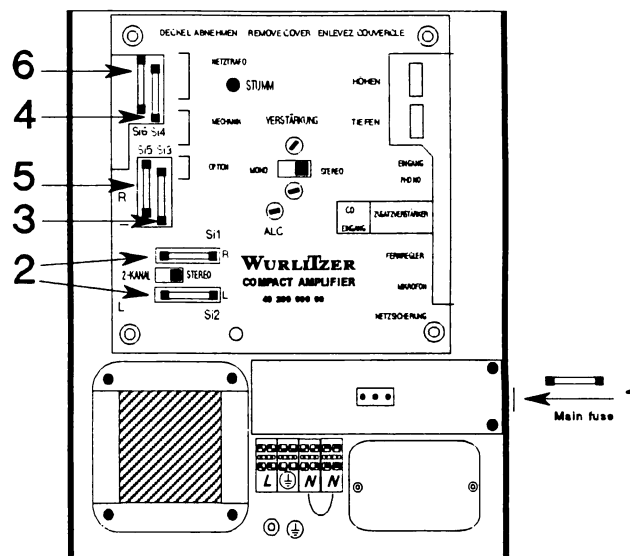

Abb. 26
01. Main fuse T 3, 15 (Fig. 26, 1) At 110/117 V-supply F6,3 A.	No illumination, jukebox completely dead.
02. Fuses Si1 and Si2 : Speaker fuses (Fig. 26, 2)	No sound on LH channel (Si1) or RH channel; the reason for a blown fuse here might be a shorted power transistor.
03. Fuse Si3 : 30 V negative supply (Fig. 26, 3).	Amplifier distorting on both channels, green LED 1 not lit. Gripper arm is still moving. Digital display shows a flashing 8 on the RH digit.
04. Fuse Si4 : 30 V positive supply (Fig. 26, 4).	Amplifier silent though the red LED (mute) is dark. Gear motor not working . After power on disc carrier moves on and stops, relays M3 picks up, after this no further function.
05. Fuse Si5 : 12 V positive supply (Fig. 26, 5).	S&CC unit dead - digital display dark (except red LED M still lightning up on coin insertion).
06. Fuse Si6 : 30V AC supply (Fig. 26, 6).	Disc carrier motor KM not working , power supply for CD control unit (one digit display dark) and CD player interrupted. Break in credit circuit (LED M). After power on carrier latch solenoid picks up, digital display shows 0000 and then no further function.